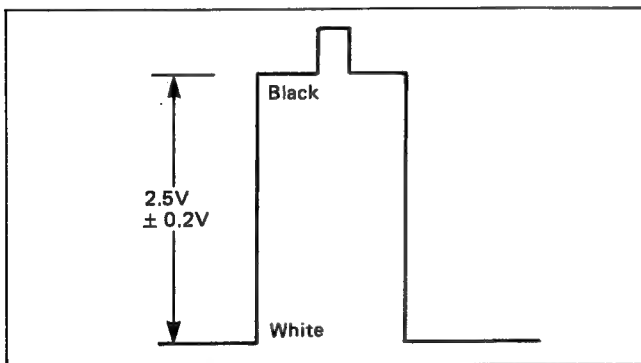

Fig. 21
- 5) Adjust Sub Contrast control VR (R1103) to achieve  $2.5V \pm 0.2V$  on the oscilloscope as shown in Fig. 21.